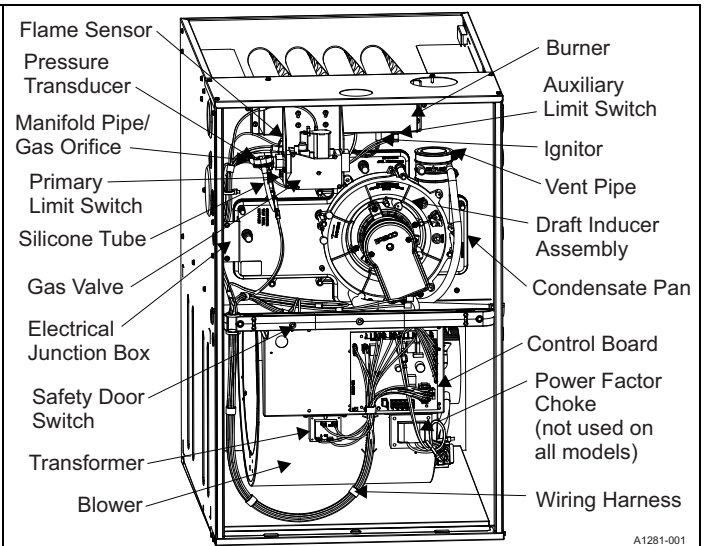

Figure 6: Component Location - 95% Ultra Low NOx Models
2. Check that the manual gas shut-off valve in the gas piping supply is turned to the **on** position. See Figure 6.